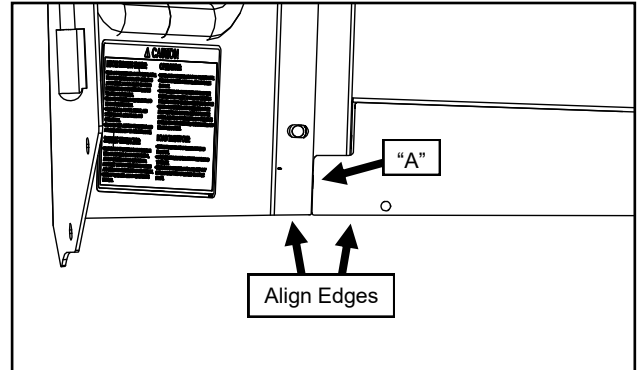

Fig. 7.2 (Side Frame to Rear Leg Orientation)
- 7.2 Locate the left side rear leg and align lower edge of rear leg with the lower edge of the side frame's contour filler. Secure rear leg to side frame with the supplied hardware ensuring there is no gap at "A". See Figure 7.2.